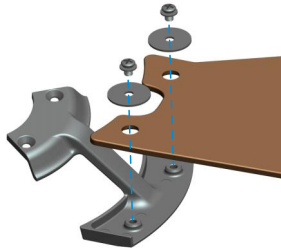

Fig 3.1
3.1 Locate 10 blade attachment screws and washers in the hardware pack. Secure each blade to the blade bracket using the blade screws and washers as shown in Fig 3.1.